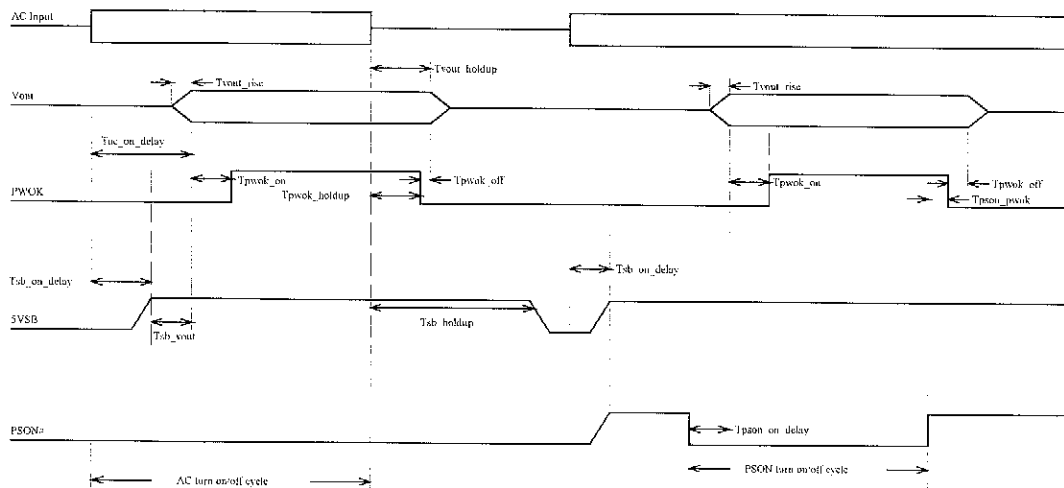

Fig.1
5.1 Power on (see Fig.1)
5.3 Power off sequence (see Fig. 1)
6.1 Power good signal ( Figure 1)